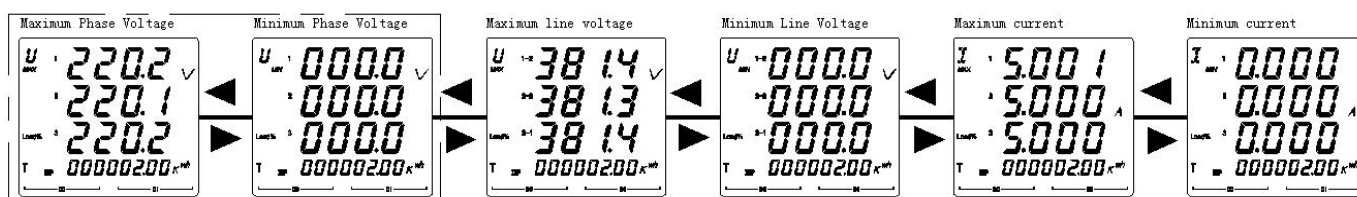

Figure 23
5.2.8 View the extreme value parameters of the AMC72L/96L as shown in Figure 23.